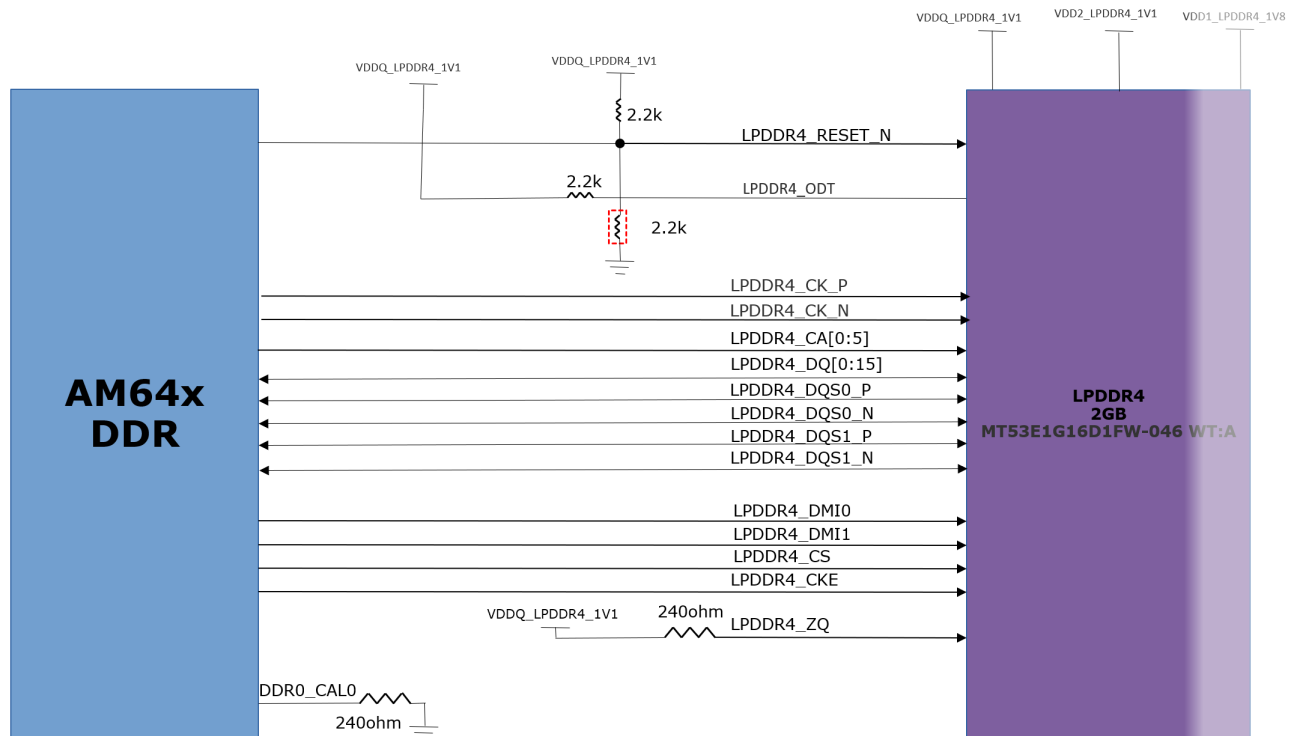

Figure 4-8. LPDDR4 Interface
The ODT (On Die Termination) is applied to DQ, DQS, and DM_n signals. The device is capable of providing three different ODT modes: Nominal, Dynamic, and Park with termination values: RTT (Park), RTT (NOM), and RTT (WR). Figure 4-8 shows the DDR interface between LPDDR4 and AM64x.